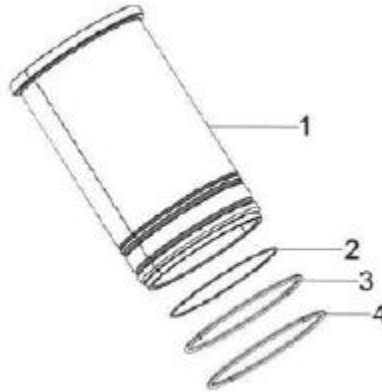

Figure 106.
1. Equip the liner with new seals (Figure 106) coated with grease or clean oil.